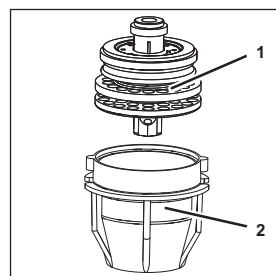

Fig. 24
3. Remove the baffle (Fig. 24/1) from the outlet nozzle (Fig. 24/2).